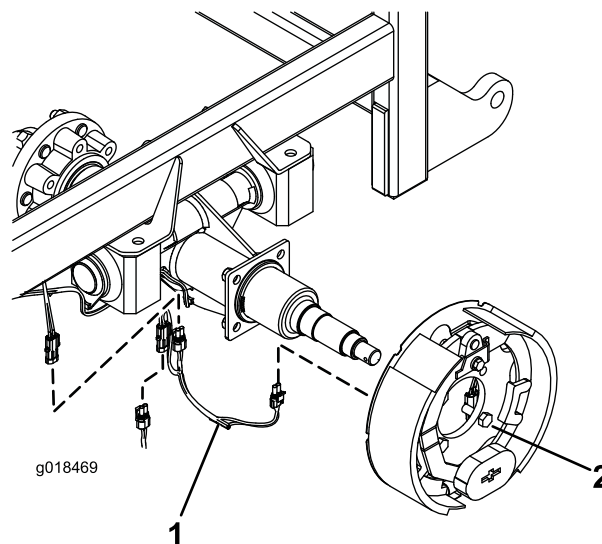

Figure 1
Note: Make sure the mounting bolts are installed so the heads are located on the brake assembly (Figure 1) and the nuts are against the axle flange.
13. Install the new jumper harness (Figure 1) as follows: